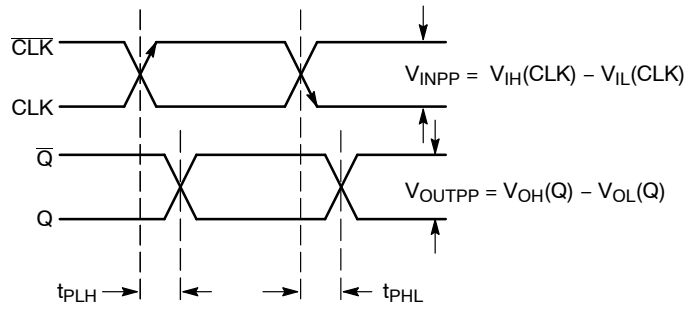

Figure 5. AC Reference Measurement
23. See Figure 5. $t_{SKEW} = |t_{PLH} - t_{PHL}|$ for a nominal 50% Differential Clock Input Waveform.
28. See Figure 5. $t_{SKEW} = |t_{PLH} - t_{PHL}|$ for a nominal 50% Differential Clock Input Waveform.